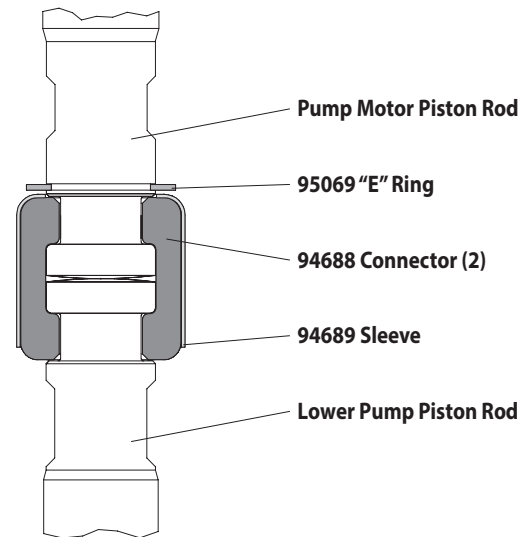

Figure 2
4. Using e-ring pliers, slide the (95069) "e" ring up far enough to allow the sleeve to move upward and release the two connectors (see figure 2). Lay the air motor aside.